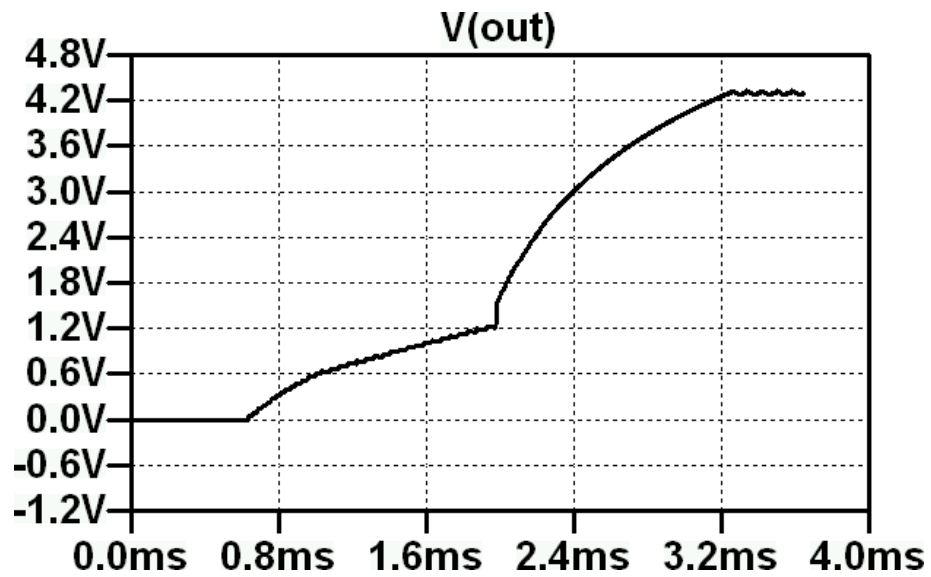

Figure 54: Transient response of LTC3105.
- Run the simulation (Figure 54). (It takes a while.)